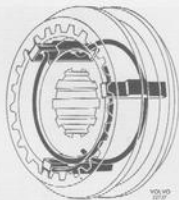

Fig. 4-35. Assembling synchronizer
3. Fit the parts for the 1st and 2nd synchronizer on the mainshaft. Fit the springs correctly, see Fig. 4-35.
6. Fit the thrust washer, 3rd speed gear and synchronizing cone on the shaft. Assemble the 3rd and 4th speed synchronizing parts. Fit the snap rings correctly, see Fig. 4-35. Then fit the synchronizer on the mainshaft. Select a locking ring of the correct thickness and fit it.